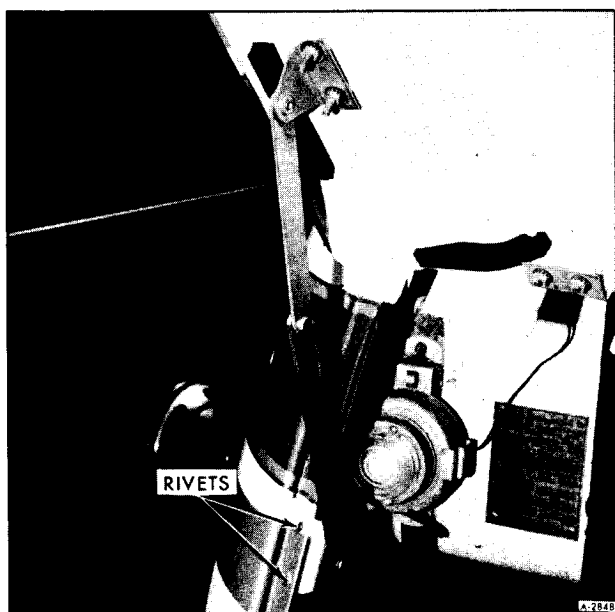

Figure 1
1. Install right access door support as shown in figure 1.